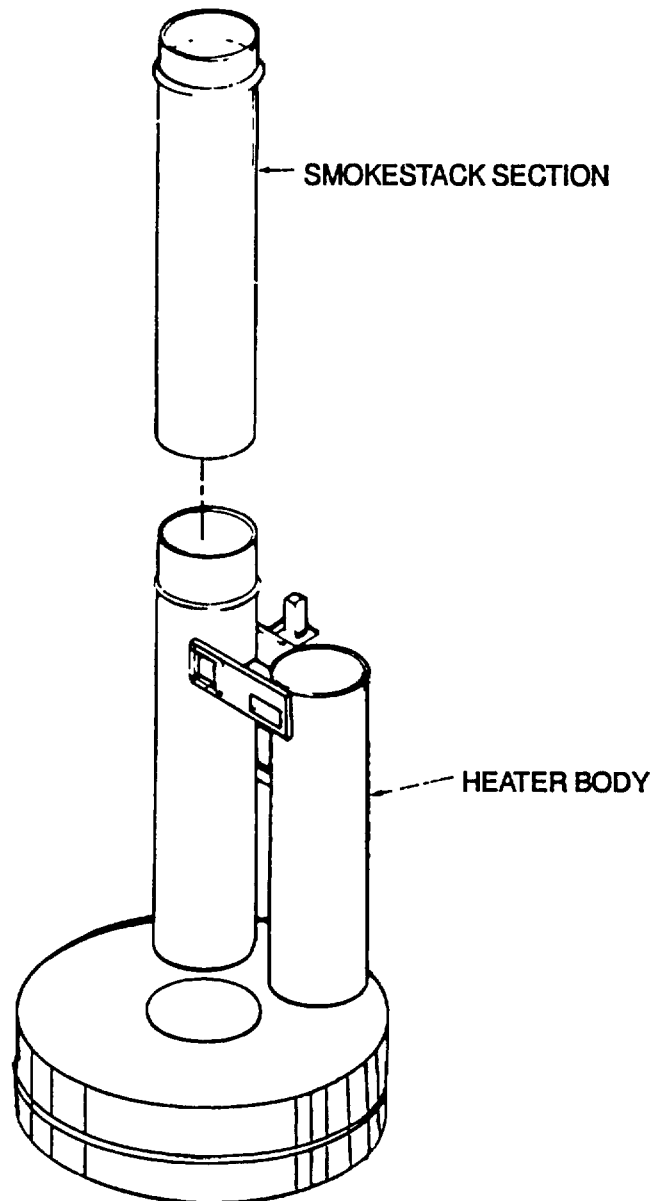

Figure 3-4. Immersion Heater Smokestack Removal and Installation
- (1) Disassembly. Separate the four 2-foot sections of smokestack, by pulling pipes apart at each joint (Figure 3-4).